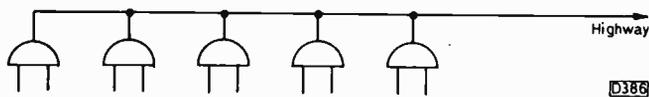
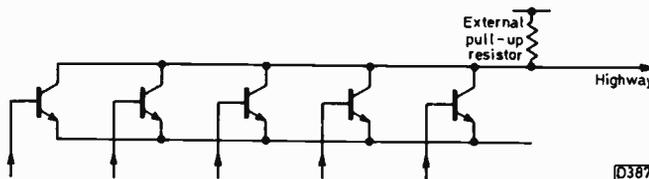

Fig. 21: Gating on to a highway.
Fig. 22: Open-collector gates connected to a highway.
**Open-collector:** It's often required to connect several gates to a *highway*, (see Fig. 21.) The easiest way for manufacturers to provide this is to make the gates with a simple common-emitter transistor output and no integrated collector load (see Fig. 22). If any of the transistors is turned on, the voltage on the common line will go to 0V. The gate outputs thus perform an or function, and this is called a "wired-or".